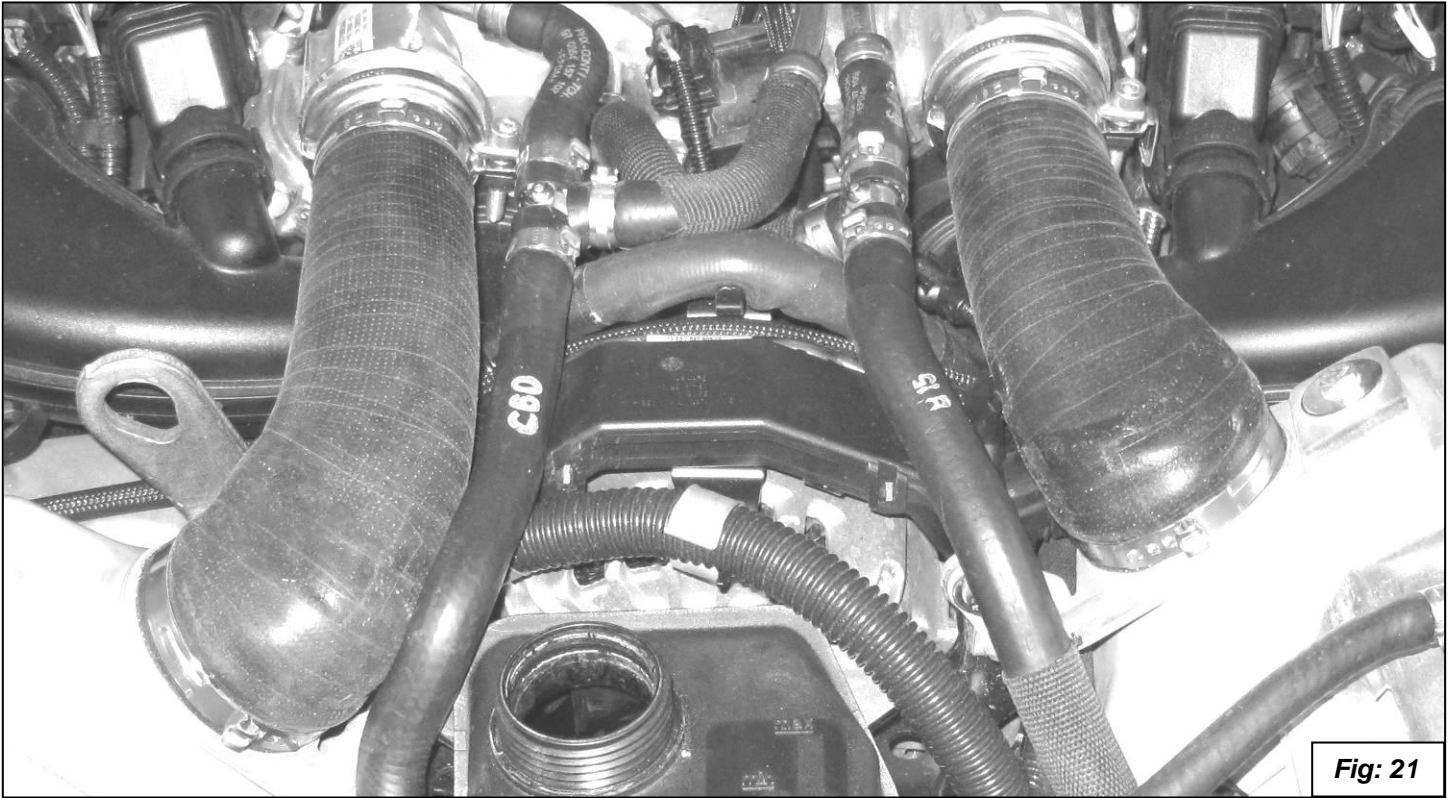

Fig: 21
18. Install the Dinan hoses as shown in figure 21. Use the new crimp clamps with the metal hose fittings you removed in step 6.